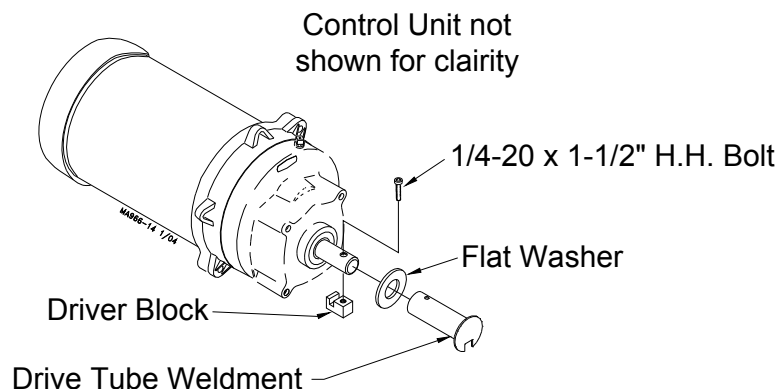

Figure 41. Auger Driver Components
5. Slide the drive tube and flat washer over the output shaft on the power unit, **see figure 41**.